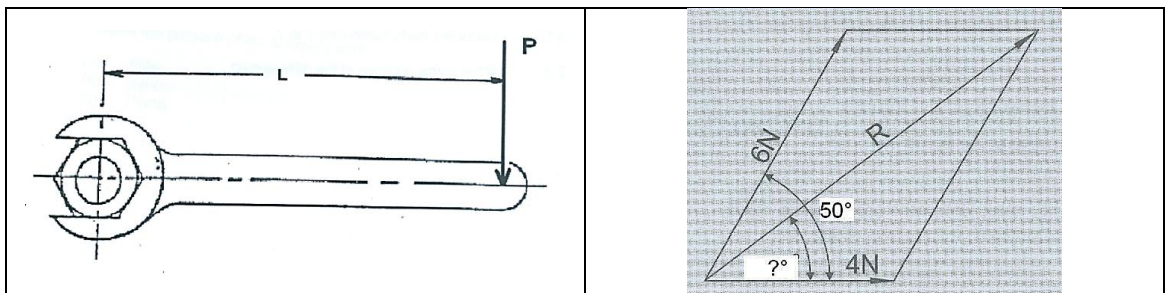

FIGURE 7.2
7.2 FIGURE 7.2 shows an open-end spanner which is used to tighten a nut.